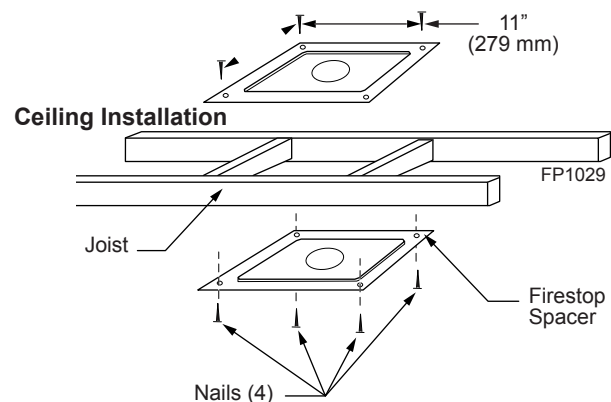

**Figure 19 -
- 7DVCS supports offsets. *Figure 19*. This application will require that you first determine the roof pitch and use the appropriate starter kit. (Refer to Venting Components List)
6. Place firestop(s) or Attic Insulation Shield into position and secure. *Figure 19*